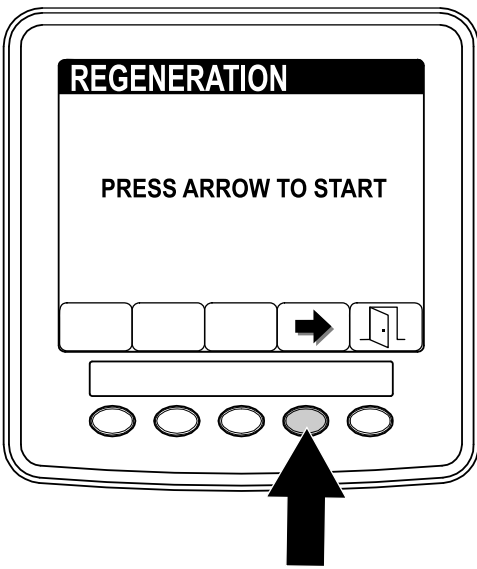

Figure 7
- On the regeneration screen, press button 4 to start the regeneration process (Figure 7).